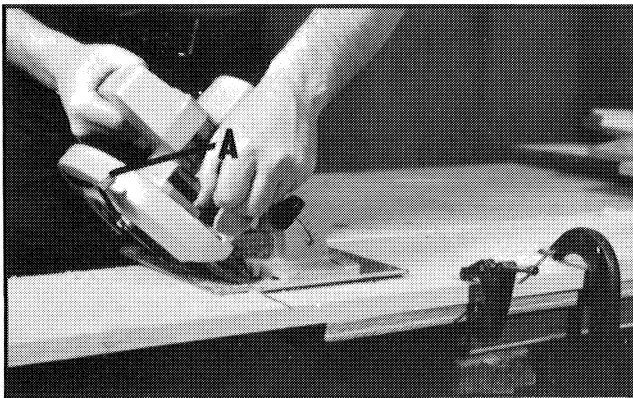

Fig. 11
Bevel cuts are made in the same manner as crosscuts and rip cuts. The only difference is that the blade is set at an angle between 0 degrees and 45 degrees, as shown in Fig. 11.
CAUTION: Use the lever (A), Fig. 11, provided on the telescoping guard when you have to retract the telescoping guard manually.